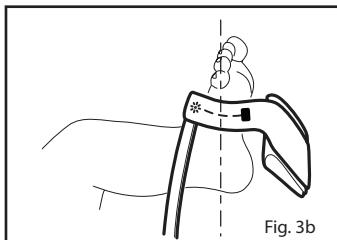

Fig. 3b
3. Refer to **Fig. 3b**. Direct the sensor cable toward the ankle (or wrist) so that it runs along the top of the foot (or hand). Apply the sensor around the foot (or hand) so that emitter and detector are aligned. Complete coverage of the detector window is needed to ensure accurate data.